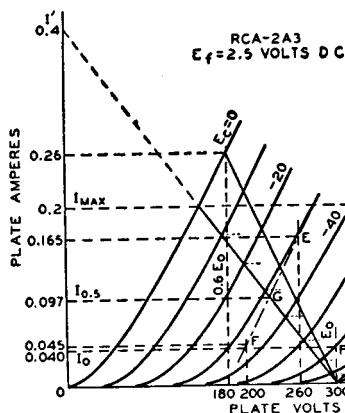
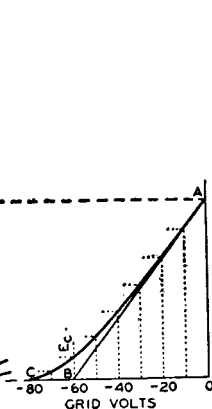

Fig. 24—Graphic calculations for class AB_1 amplifier using the 2A3 power triode.
Fig. 25—Instantaneous curve for class AB_1 amplifier.
point D in Fig. 24. Its position is not affected by the operating grid bias provided the plate-to-plate load resistance remains constant.
In general, for any load line through point D, Fig. 24, the plate-to-plate load resistance in ohms of a push-pull amplifier is $R_{pp} = 4E_o/I'$, where I' is the plate-current value in amperes at which the load line as projected intersects the plate-current axis, and E_o is in volts. This formula is another form of the one given under push-pull class A amplifiers, $R_{pp} = 4(E_o - 0.6E_o)/I_{max}$, but is more general. Power output $= (I_{max}/\sqrt{2})^2 \times R_{pp}/4$, where I_{max} is the peak plate current at zero grid volts for the load chosen. This formula simplified is $(I_{max})^2 \times R_{pp}/8$. The maximum-signal average plate current is $2I_{max}/\pi$ or $0.636 I_{max}$; the maximum-signal average power input is $0.636 I_{max} \times E_o$.
Example: Fig. 24 illustrates the application of this method to a pair of 2A3's operated at $E_o = 300$ volts. Each tube has a plate-dissipation rating of 15 watts. The method is to erect a vertical line at 0.6 E_o , or at 180 volts, which intersects the $E_c = 0$ curve at the point $I_{\max} = 0.26$ ampere. Using the simplified formulas, the following values are obtained:
The operating bias and the zero-signal plate current may then be found by use of a curve which is derived from the plate family and the load line. Fig. 25 is a curve of instantaneous values of plate current and dc grid-bias voltages taken from Fig. 24. Values of grid bias are read from each of the grid-bias curves of Fig. 24 along the load line and are transferred to Fig. 25 to produce the curved line from A to C. A tangent to this curve, starting at A, is drawn to intersect the grid-voltage abscissa. The point of intersection, B, is the operating grid bias for fixed-bias operation. In the example, the bias is —60 volts. Refer back to the plate family at the operating conditions of plate volts = 300 and grid bias = —60 volts; the zero-signal plate current per tube is seen to be 0.04 ampere.
tortion in a class AB_1 amplifier using triodes is very small and is largely canceled by virtue of the push-pull connection. Third-harmonic distortion, however, which may be larger than permissible, can be found by means of composite characteristic curves. A complete family of curves can be plotted, but for the present purpose only the one corresponding to a grid bias of one-half the peak grid-voltage swing is needed. In the example, the peak grid voltage per tube is 60 volts, and the half value is 30 volts. The composite curve, since it is nearly a straight line, can be constructed with only two points (see Fig. 24). These two points are obtained from deviations above and below the operating grid and plate voltages.
These steps provide points at 260 volts and 0.165 ampere (E), and at 200 volts and 0.045 ampere (F). A straight line through these points is the composite curve for a bias of -30 volts, shown as a long-short dash line in Fig. 24. At the intersection of the composite curve and the load line, G, the instantaneous composite plate current at the point of one-half the peak signal swing is determined. This current value, designated $I_{0.5}$ and the peak plate current, I_{max} , are used in the following formula